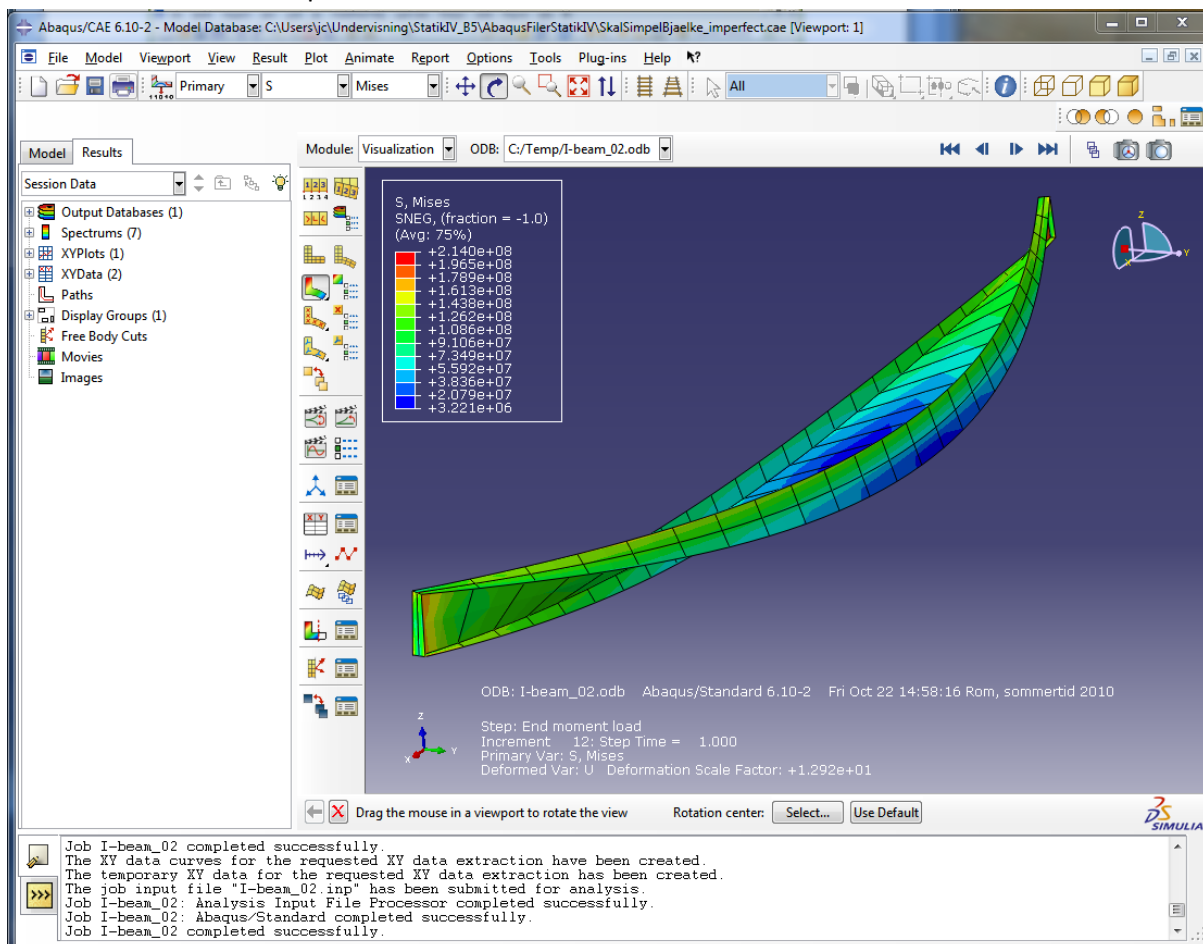

Figure 12. Visualisation of the displacement. Notice that the deformation is scaled with a scale factor of 12.92.
1. Try the **Plot Contours on Deformed Shape** tool. This will provide a plot as illustrated in Figure 12.